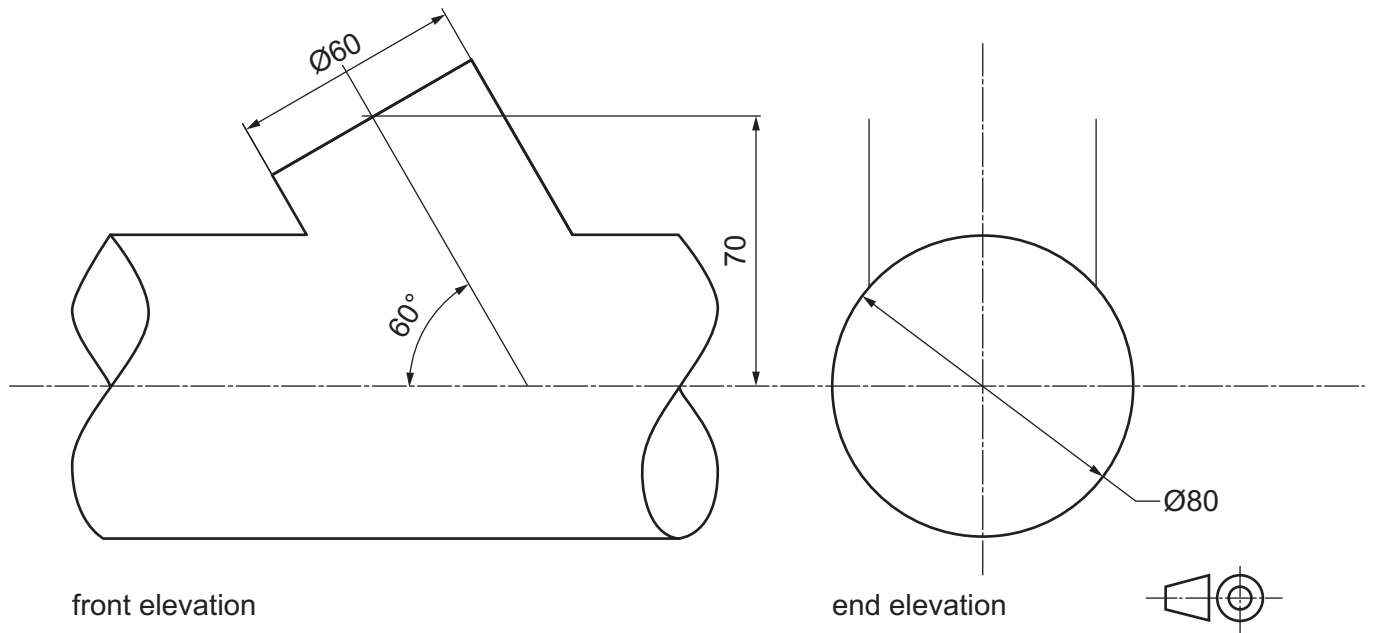

Fig. 9.1
- 9 Fig. 9.1 shows incomplete elevations of a $\varnothing 60$ pipe joining a $\varnothing 80$ pipe.